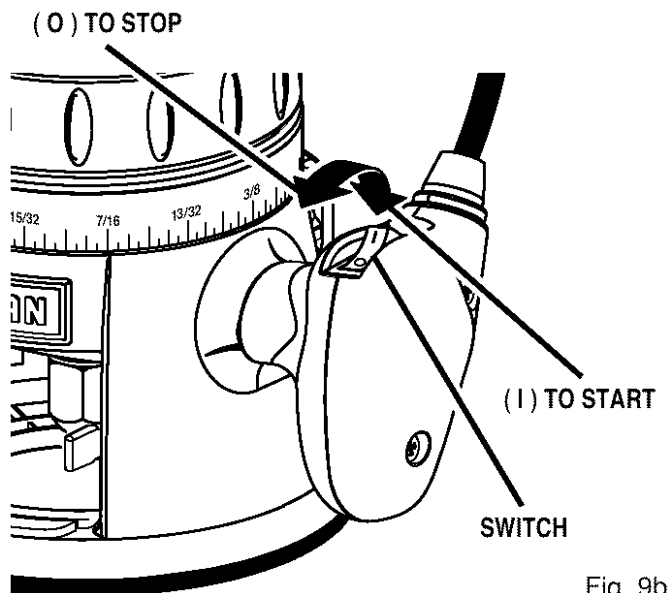

Fig. 9b
- **To start router:** Toggle the switch to the **I** position. See Figure 9b.
- **To stop router:** Toggle the switch to the **O** position. See Figure 9b.